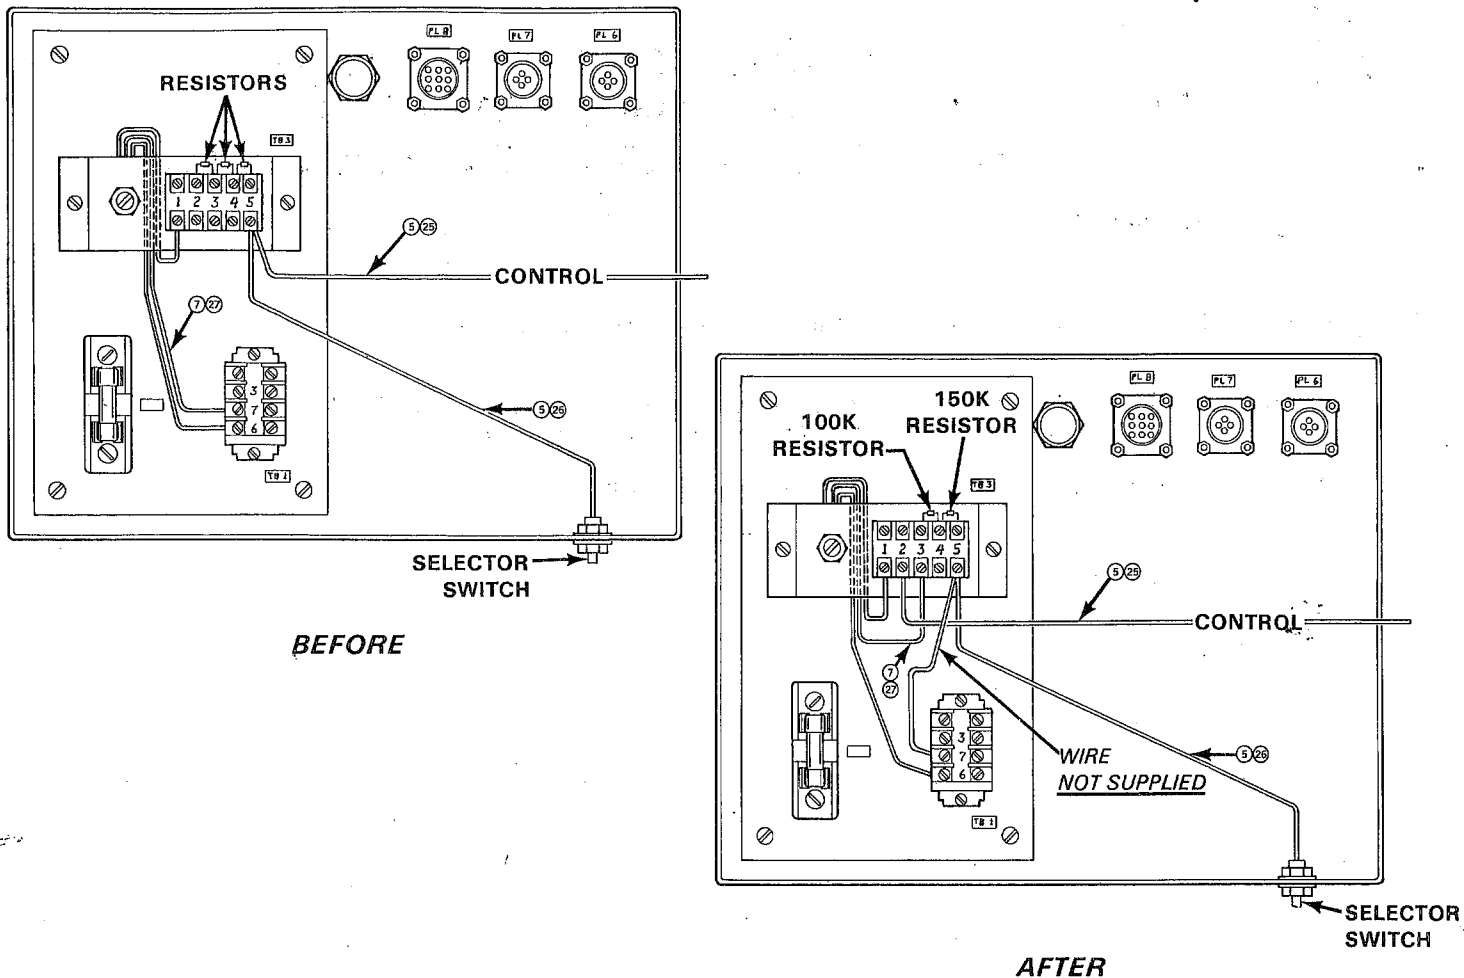

FIGURE 2, Feed Control Console
7. Remove three (3) Resistors (1k, 1k, 2.2k) from Terminal Block TB3 (see Figure 2).